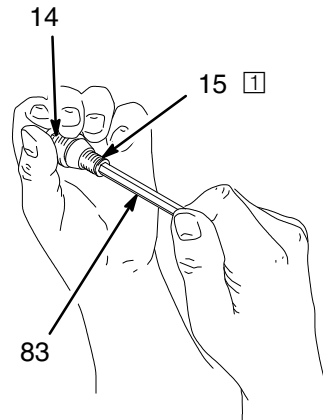

Fig. 21
4. Unscrew the resistor stud (15) from the fluid nozzle (14) with the hex key wrench (83). See Fig. 21.
7. Install the resistor stud (15) in the fluid nozzle (14). Tighten to 10 in-lb (1.12 N•m). See Fig. 21.